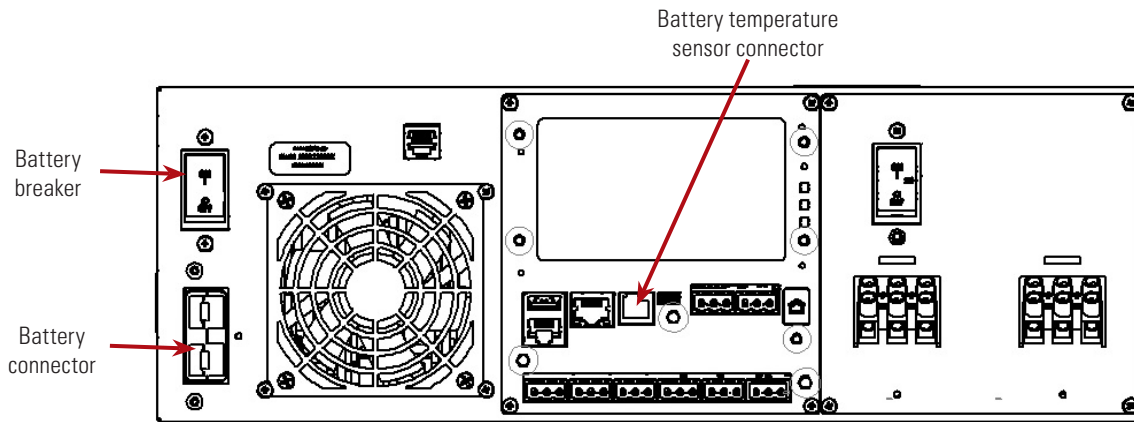

Figure 16: Alpha® FXM HP 1100 UPS front panel
8. Connect the external batteries to the battery connector on the FXM HP UPS—see Figure 16.